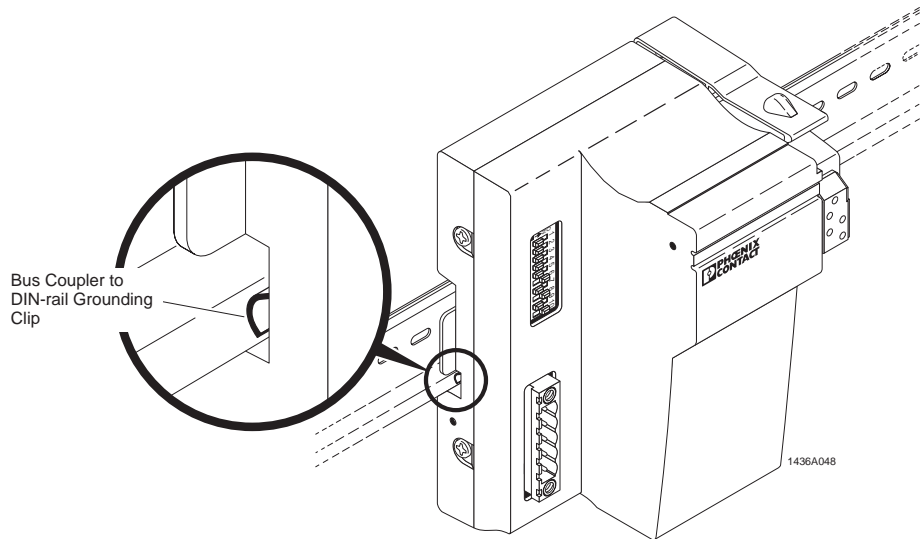
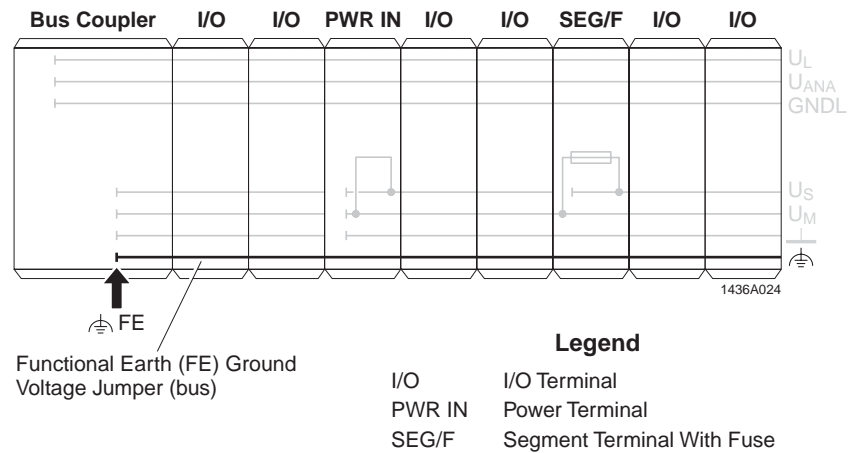

Figure 2-21. FE Grounding Tab on Bus Coupler
Figure 2-22. Functional Earth (FE) Ground Circuit
The Inline station must be mounted onto a DIN-Rail that is connected to earth ground. The earth ground path, referred to as a Functional Earth (FE) ground, is made between the bus coupler and DIN-Rail by two grounding tab located on the back of the module. See Figure 2-21. From the bus coupler, the FE ground flows through all module voltage contacts to form the FE bus (voltage jumper) of the Inline station. See figure 2-22.